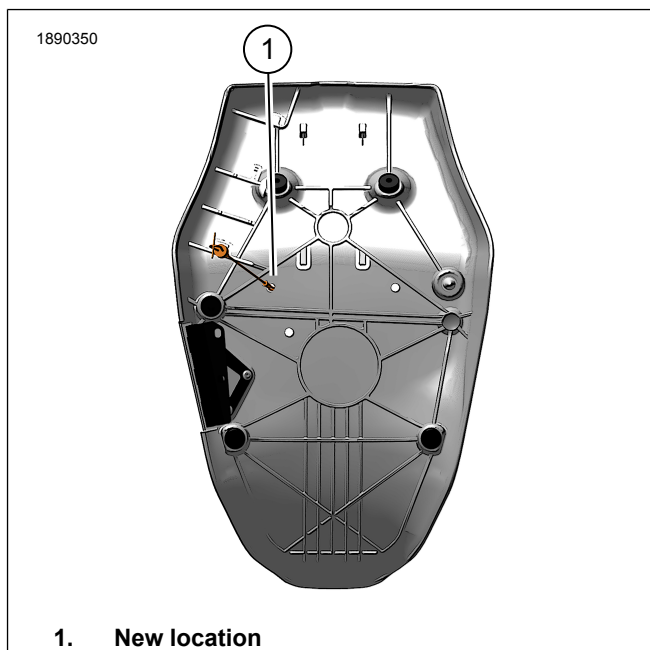

Figure 4. New Seat Support Cable Location
- a. See Figure 4. Insert end of support cable (1) without grommet into new hole in seat pan.